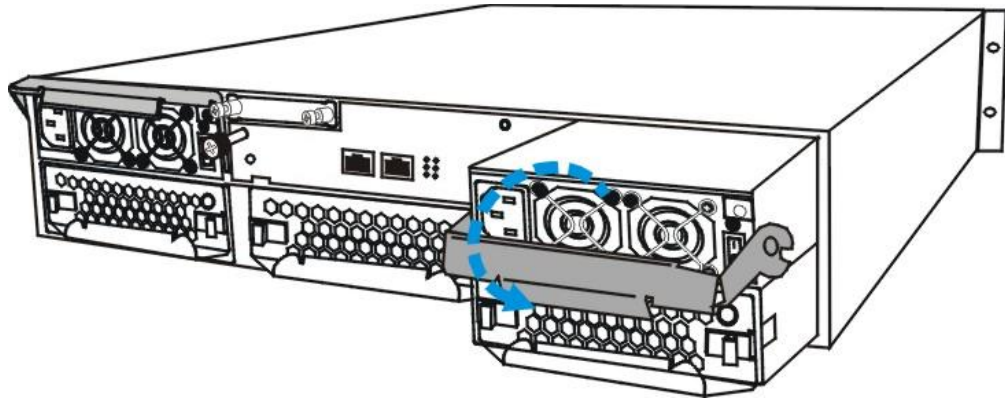

Fig. 2.3 Removing the PSU Module
4. Remove the PSU module by pushing the extraction lever at the back of the PSU module downwards. This will dislodge the PSU module from the subsystem. Gently pull the PSU module out of the subsystem. (See Figure 2.3)